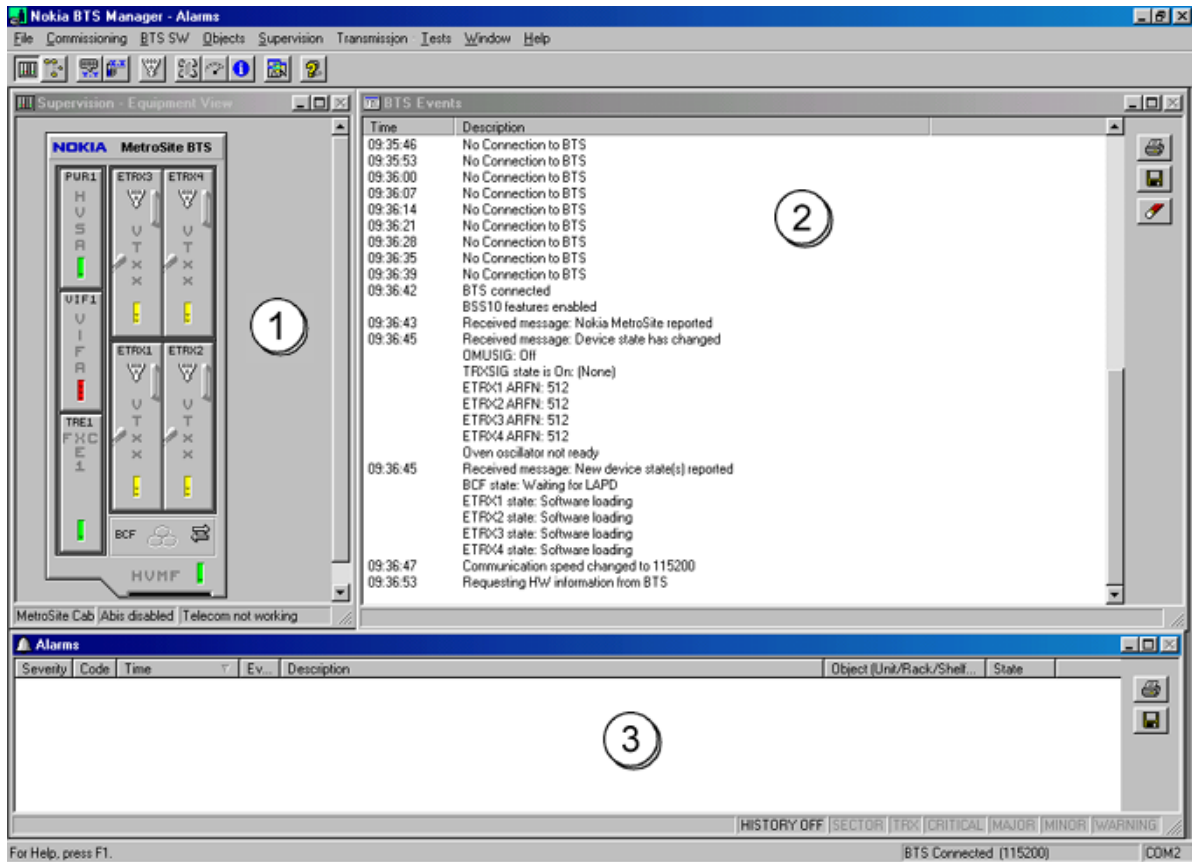

Figure 1. Nokia BTS Manager - main window
Nokia BTS Manager provides a graphical user interface to run in a laptop PC in the Windows environment. See Figure 1 for an example of the graphical user interface in Windows. The laptop is connected to the BTS via the local management port (LMP) on the BTS interface unit.
4. Nokia BTS Manager starts with the *Supervision - Equipment View* (1), *BTS Events* (2) and *Alarms* (3) windows opened (see Figure 1). The software checks the BTS configuration and represents it graphically in the *Nokia BTS Manager - Supervision* window.
The main window of Nokia BTS Manager contains the main menu bar and three sub-windows, *Supervision - Equipment view*, *BTS Events* and *Alarms*. The main window and sub-windows are shown in Figure 1. If the sub-windows are not displayed, see Section 4.2.2 of this document.